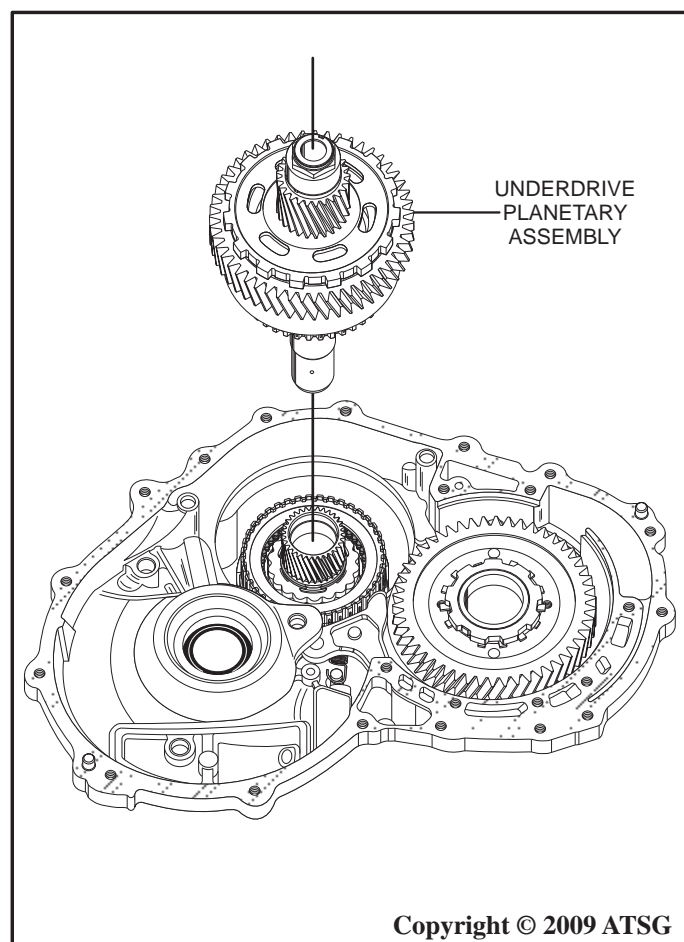

Figure 35
47. Remove the underdrive planetary assembly by lifting straight up as shown in Figure 35. The planetary assembly is heavy, use care when lifting.